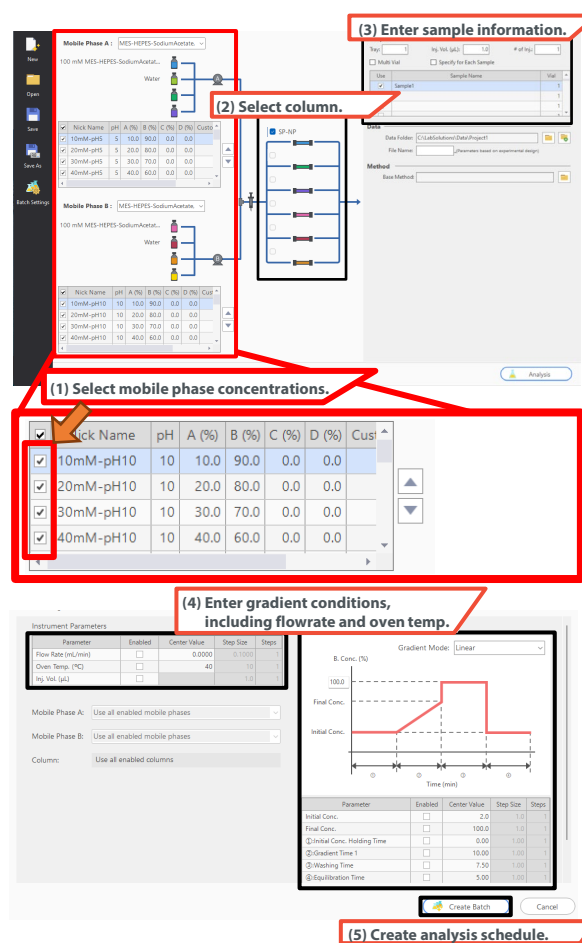

Fig. 1 Steps for Creating Analysis Schedule
LabSolutions MD can quickly and easily generate analysis schedules for specified parameter settings, such as for several types of mobile phases and column oven temperatures (steps (1) to (5) in Fig. 1). In addition, mobile phase blending functionality can automatically prepare mobile phases with different concentrations of the MES-HEPES-sodium acetate, as well as different ratios of acetonitrile or methanol, by simply clicking the mobile phases to use for automated screening (step (1) in Fig. 1). That significantly reduces the amount of work and human errors involved in manual preparation.